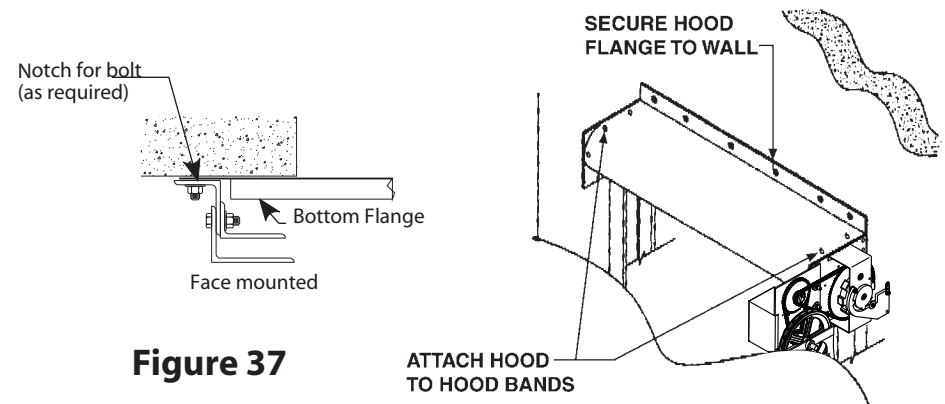

Figure 37
- Attach the hood to the hood band on headplate bracket by drilling a 7/32" hole through the hood and band. Then secure hood with 1/4" tapping screw, maximum length 7/16". Longer screws can prevent door closing. Use four screws per bracket. See Figure 37 on page 21.
- Attach the hood to hood bands and hood support with 1/4" dia. by 3/8" long tapping screws; longer screws may prevent door closure. Use four screws on each hood band and support. See Figure 37 on page 21.